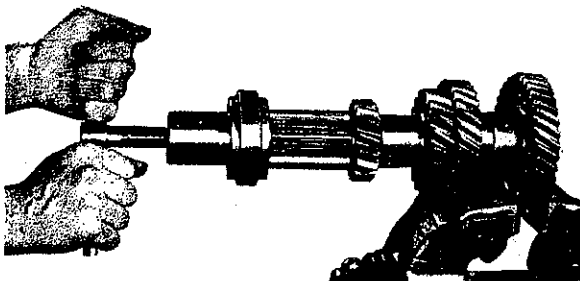

Fig. 14
Pull-off roller bearing (302) with tools .4. and .7. (Fig. 14). Remove retaining ring (303). The constant gear wheel (304) and the 5th speed gear wheel (305) can be forced from countershaft only by means of a 20-ton press; wheels are shrunk-fit.